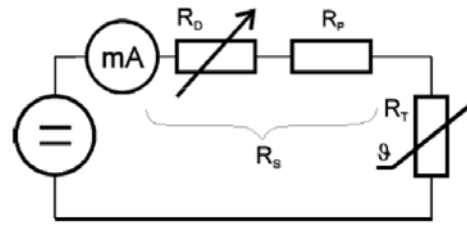

Fig. 1.2
- 1.4 Calculate the value of serial linearization resistor R_S (Fig. 1.2) which sets the point of inflexion of the function $I = f(T)$ to temperature $t = 45\text{ }^{\circ}\text{C}$. By means of the decade resistor insert the calculated value of R_S into the circuit. Do not forget to subtract the value of protecting resistor $R_P 1000\text{ }\Omega$.